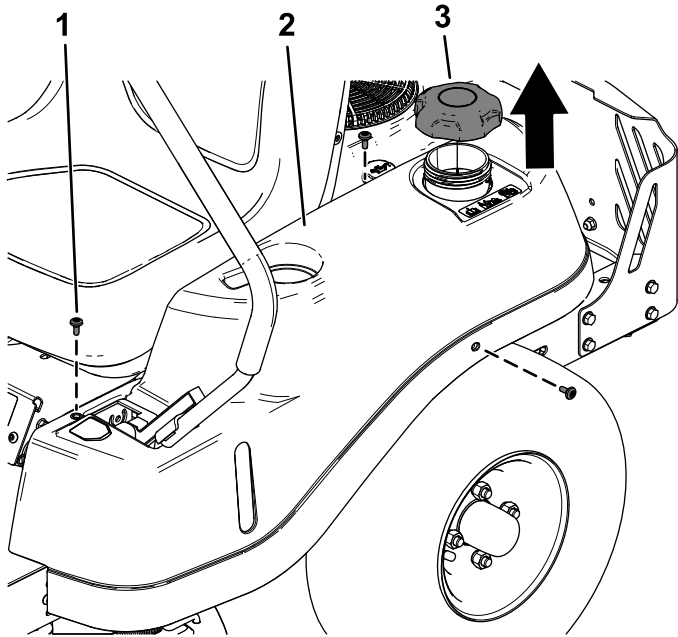

Figure 2
1. Remove the 3 shoulder screws from each pod and remove the pods from both sides of the machine (Figure 2).
Remove the fuel-tank cap before removing the left pod (Figure 2).